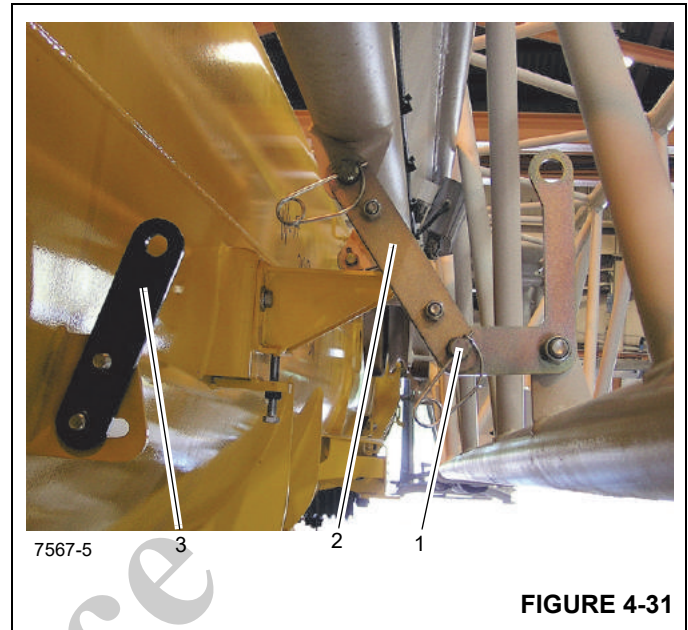

FIGURE 4-31
5. Remove the pin (1) (Figure 4-31) from the locking bar (2). Move the locking bar (2) to the base section attachment bar (3) and install pin. Secure with retaining clip.